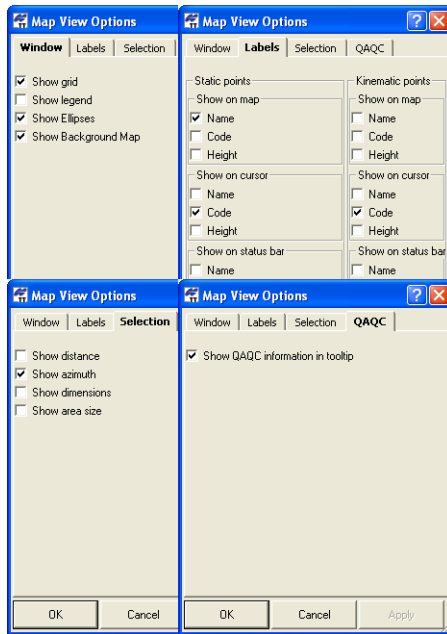

Figure 4-47. Window, Labels, Selection and QAQC Tabs of the Map View Options
1. Click **View ► Map View Options** or right-click on an empty portion of the Map View and click **Options** on the pop-up menu (Figure 4-47 on page 4-43).
- On the *Show* tab, enable the desired settings (Figure 4-47). Click **Apply** to save the settings and make further changes.
2. On the *Labels* tab, enable the desired settings (Figure 4-47 on page 4-43). Click **Apply** to save the settings.
3. On the *Labels* tab, enable the desired settings for static and kinematic points (Figure 4-47 on page 4-43). Click **Apply** to save the settings.
4. On the *Selection* tab enable the desired settings (Figure 4-47 on page 4-43). Click **Apply** to save the settings and make further changes.
5. On the *QAQC* (Quality Analysis Quality Control) tab, if desired, enable the following setting (Figure 4-47 on page 4-43). Click **Apply** to save the setting.
3. On the *Labels* tab, enable the desired settings (Figure 4-47).